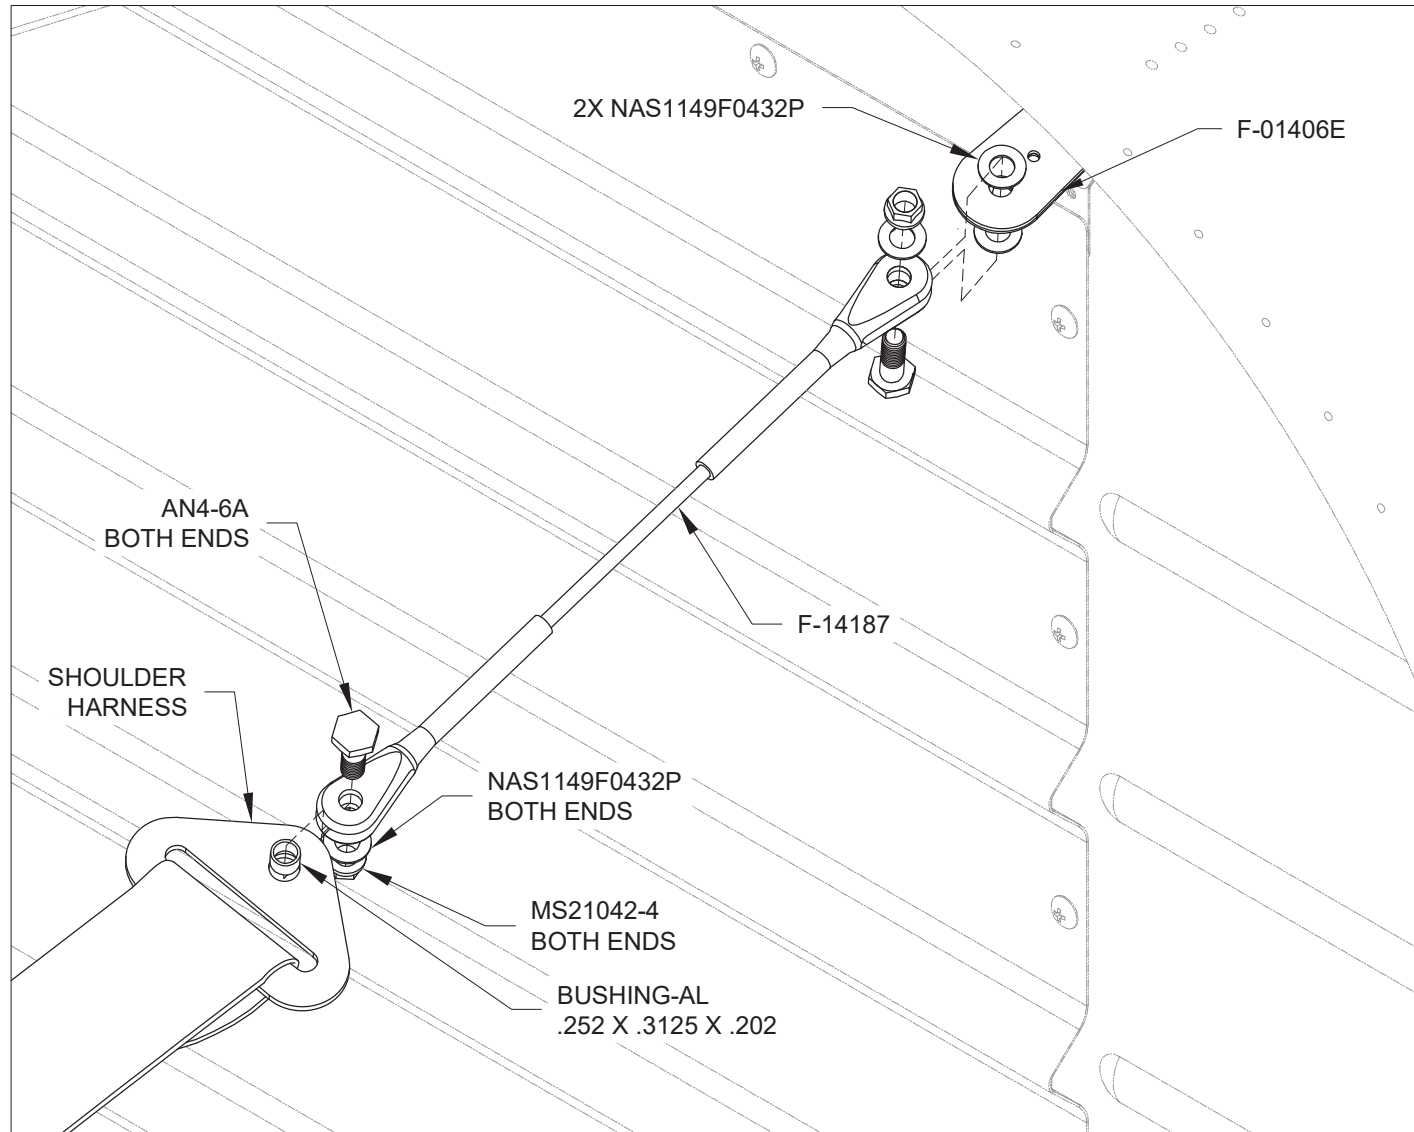

FIGURE 1: SHOULDER HARNESS ATTACH
Step 2: Attach the other end of the F-14187 Shoulder Harness Cables to the Shoulder Harness (not included in kit) as shown in Figure 1.